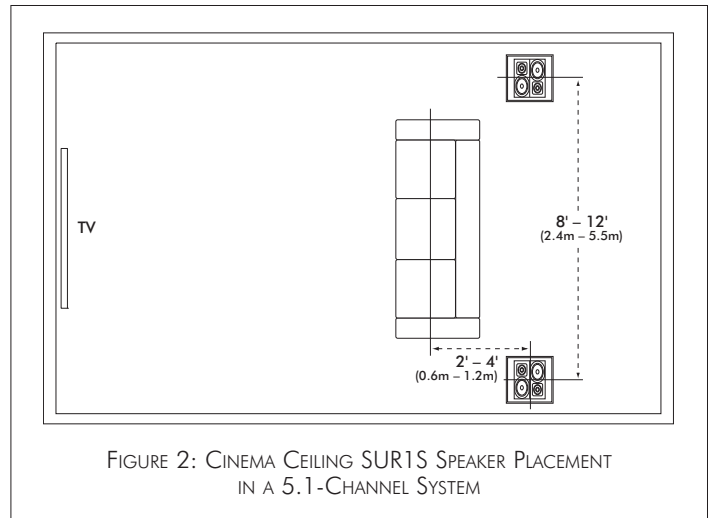

FIGURE 2: CINEMA CEILING SUR1S SPEAKER PLACEMENT IN A 5.1-CHANNEL SYSTEM
5.1-Channel System (see *Figure 2*)